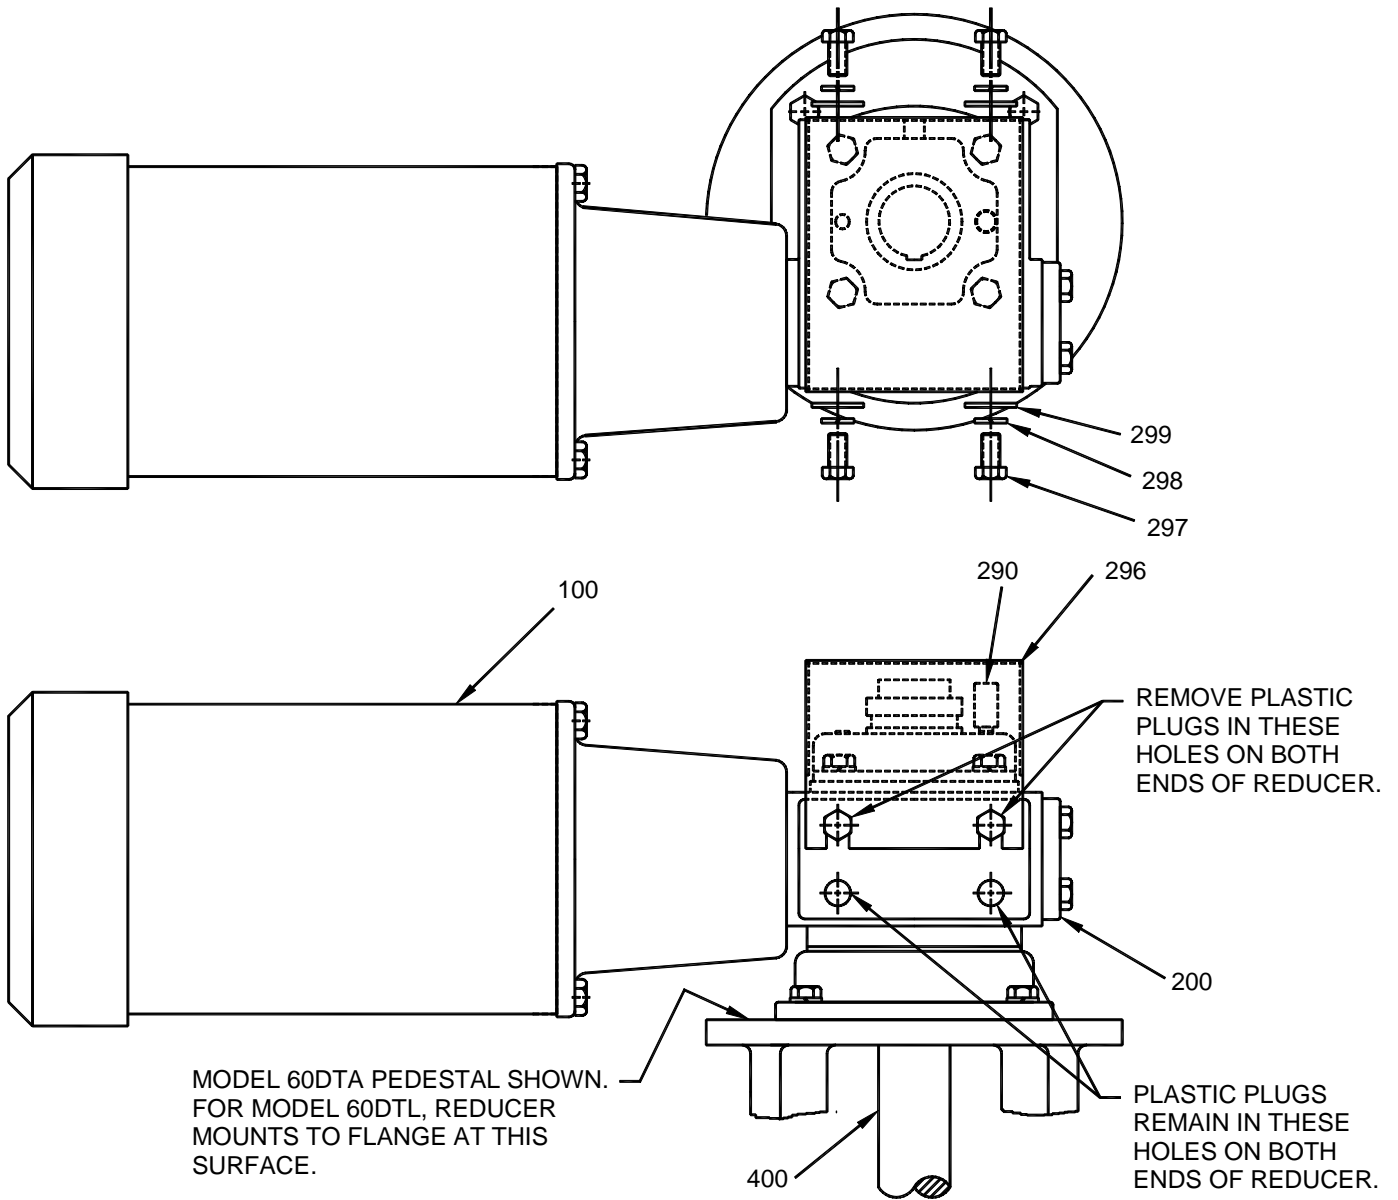

Figure 7: Shaft Guard Installation
11. Eight plastic hole plugs have been inserted into the two opposite sides of the reducer. Remove the upper two plugs on each side, and install shaft guard **[296]**. Refer to *Figure 7, page 12*.